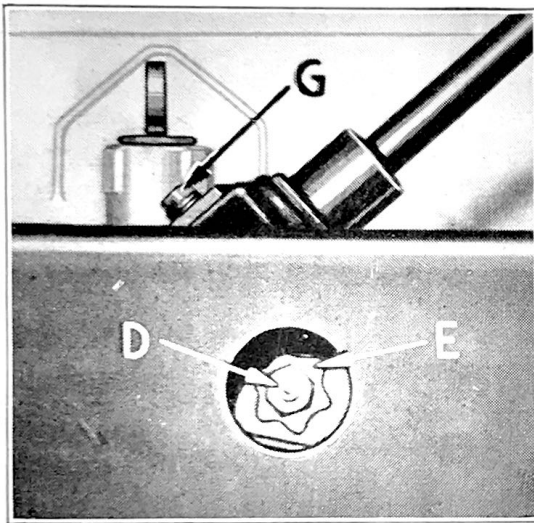

Figure 40
Lubrication — S.A.E. 90 E.P. gear oil should be added to bring level up to bottom of filler plug hole opening (G), Fig. 40. It is not necessary to replace this lubricant, but rather replenish it as required. Be sure filler plug is tightened securely.